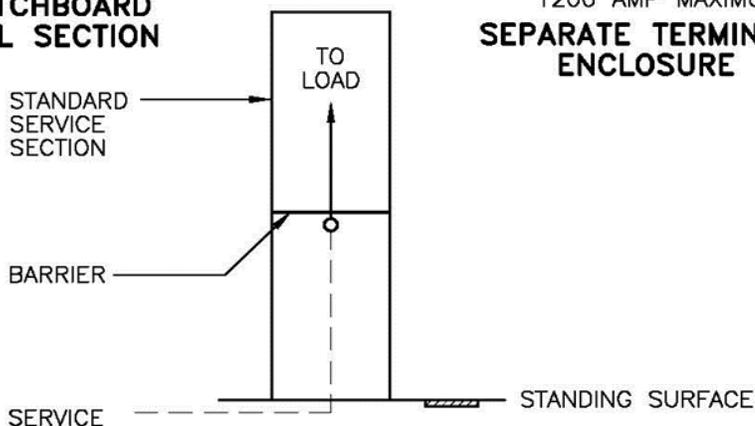

FIGURE 3
1. A switchboard pull section as shown in Figure 1, a separate (nonattached) termination enclosure as shown in Figure 2, or a combination switchboard service section and pull section (bottom feed) as shown in Figure 3 shall be provided for underground services.